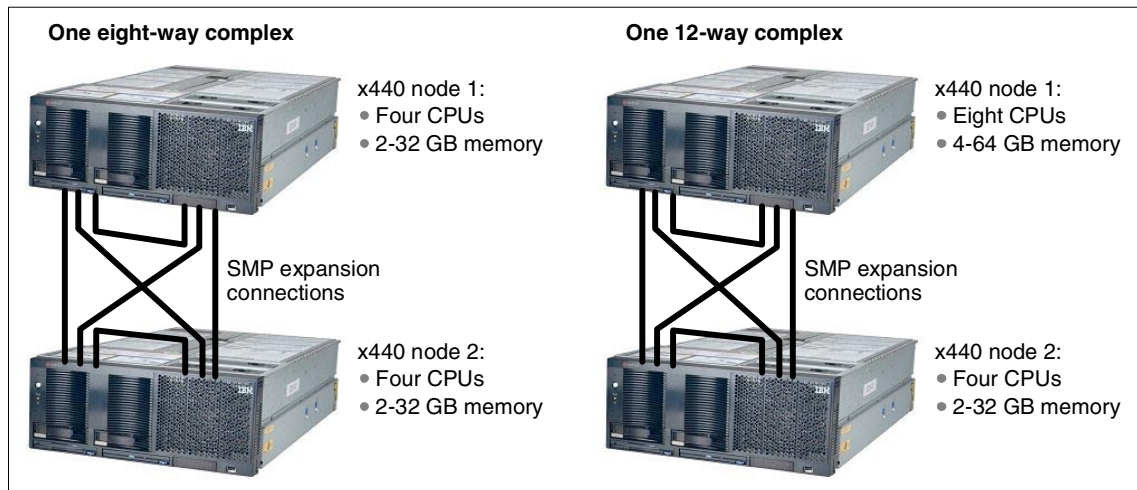

Figure 1-3 Eight-way and 12-way two-node configurations
- ▶ A single 12-way system comprised of an eight-way and a four-way x440, as shown in Figure 1-3 on page 5. This will be available in early 2003.
- ▶ A single eight-way system comprised of two four-way x440 nodes, as shown in Figure 1-3 on page 5. This will be available in early 2003.